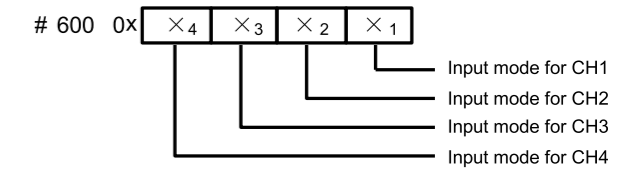

Figure 2-1 Mode setting element vs. channel
4. BFM#600: input mode selection, used to set the input modes of CH1-CH4. See Figure 2-1 for their correspondence.